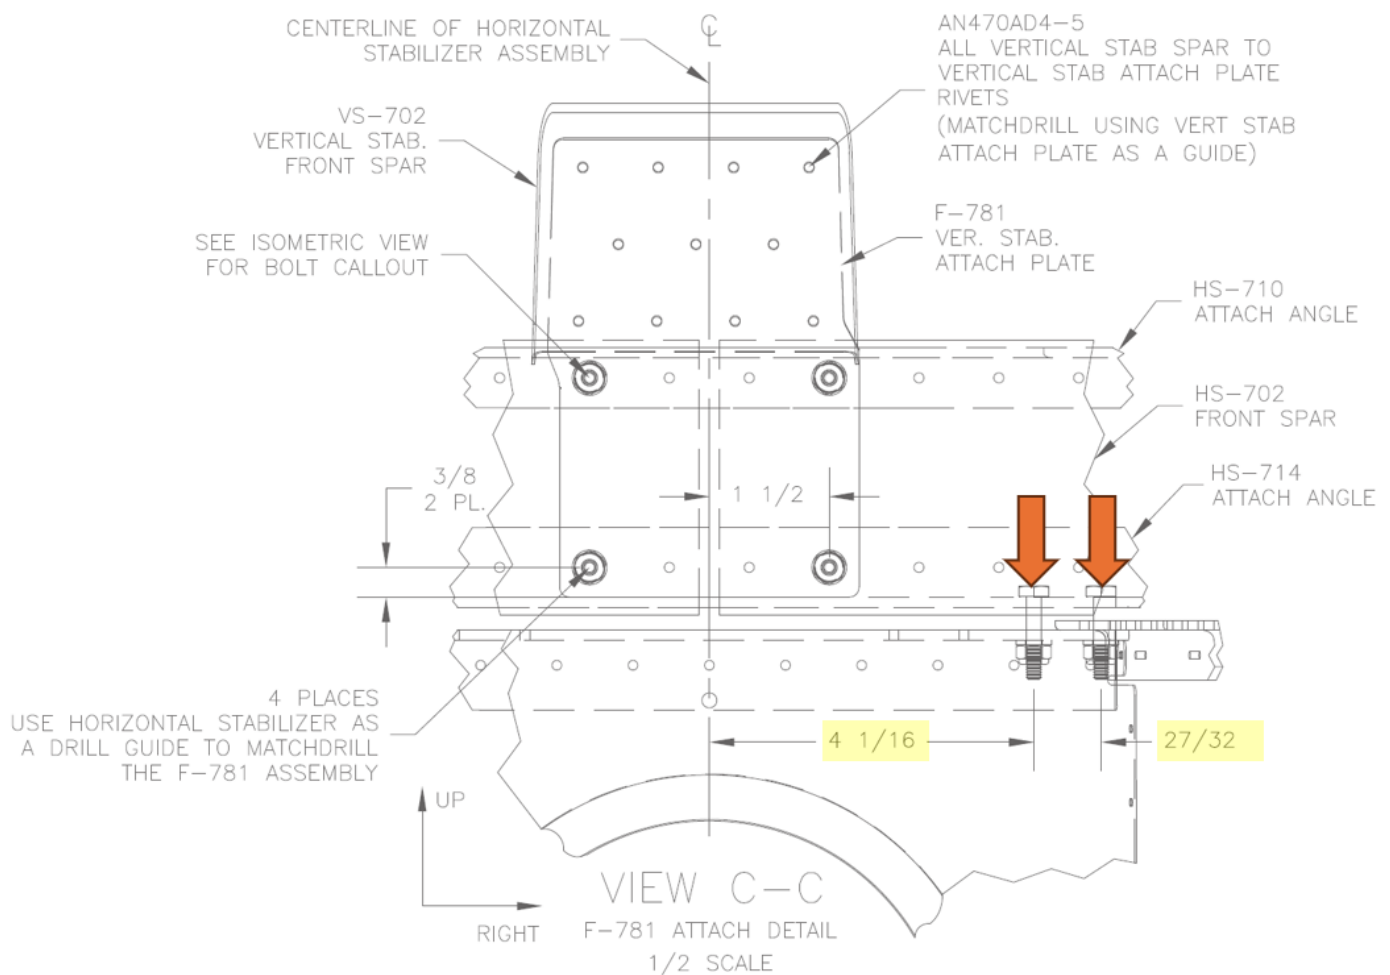
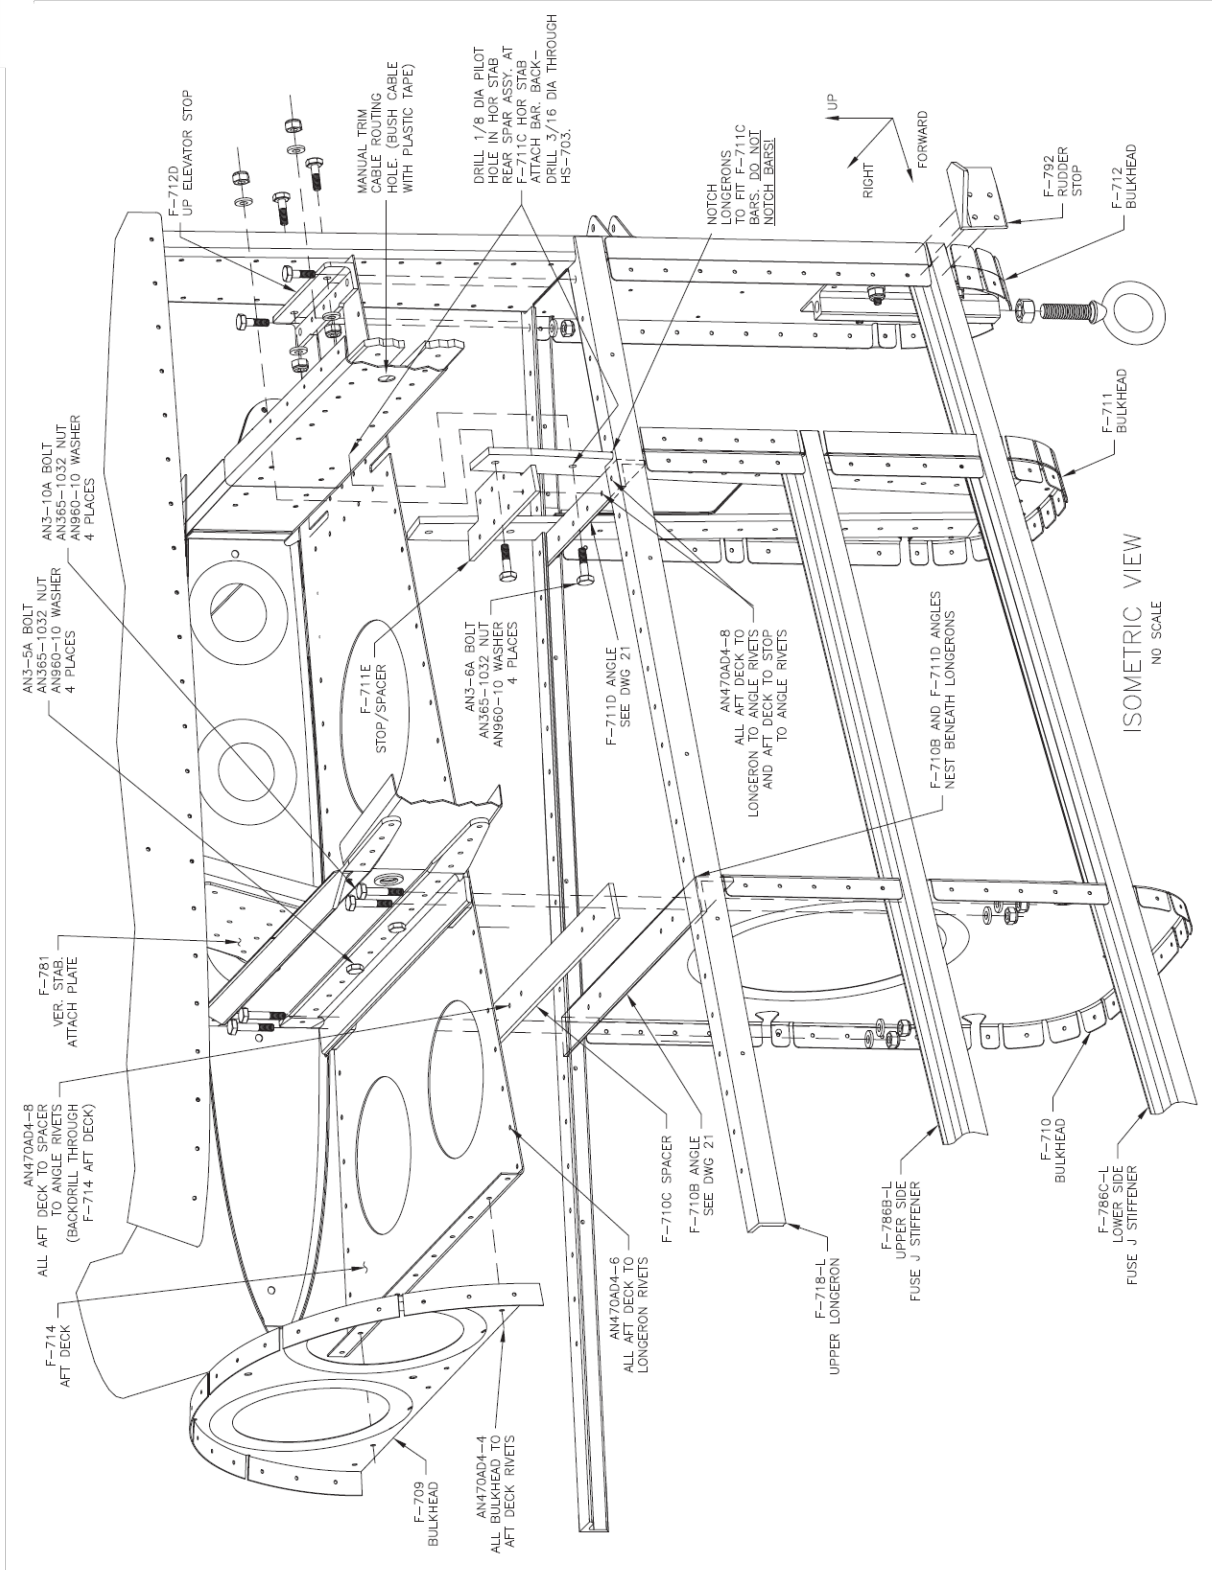

FIGURE 2: RV-7 DEG 27A TYPICAL HORIZONTAL STABILIZER ATTACH FRONT VIEW
FIGURE 3: RV-7 DEG 27A TYPICAL HORIZONTAL STABILIZER ATTACH ISO
The plans pages for the horizontal stabilizer attach specify the position of the horizontal stabilizer forward spar attach bolts. See Figure 2 and Figure 3. Some aircraft have been constructed with these bolt holes significantly displaced from the given location. This has resulted in inquiries which have been dealt with on a case-by-case basis. This service document establishes the acceptable limits for the bolt locations. Contact Van's Aircraft for further guidance if an aircraft does not meet the criteria established in this document.
Step 2: Measure the distance between the attach bolts on one side of the aircraft (see the set of bolts marked with arrows in Figure 2 with a distance of 27/32 inches between them). At minimum the distance between the bolts should be 25/32 inches.
Measure the edge distance between the center of each bolt hole and the forward edge of the HS-714 Attach Angle. Repeat the measurement for the forward edge of the F-710B Angle. See Figure 2 and Figure 3. The edge distance should not be less than $e/D = 1.5$ (e/D the distance from the center of a hole to the edge of the part divided by the diameter of the hole $.190 \times 1.5 = .28$ in).
For example, Figure 2 the center of the bolt pattern would be $4 \frac{1}{16}$ inches plus half the distance between the bolts or half of $\frac{27}{32}$ inches which results in a bolt pattern center distance to the centerline of 4.48 inches.